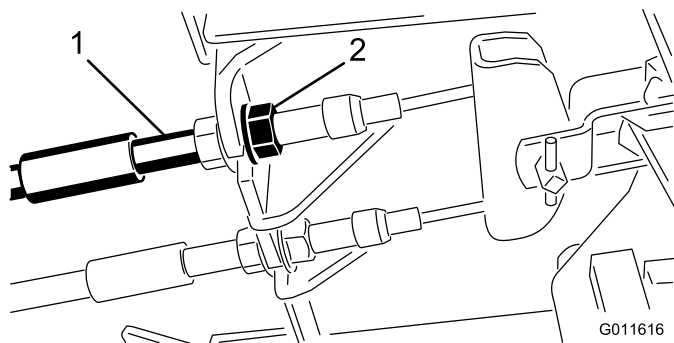

Figure 55
1. To reduce free travel of the brake pedals, tighten the brakes by loosening the front nut on the threaded end of the brake cable (Figure 55).